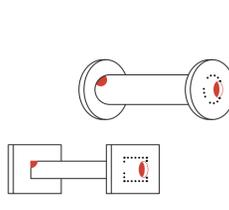

Fig. 11
- With hollow sections sealed at the ends, holes should be provided, again diagonally opposite one another, as near as possible to the ends of the hollow member (fig. 11). In some cases it may be more economical to provide 'V' or 'U' shaped notches (fig. 3) in the ends of the tubes, or to grind the corners off rectangular hollow sections. These procedures will provide ideal means for venting and draining.
- Where holes are provided in end plates or capping pieces, they should be placed diagonally opposite to one another, off centre and as near as possible to the wall of the member to which the end plate is connected (fig.11).